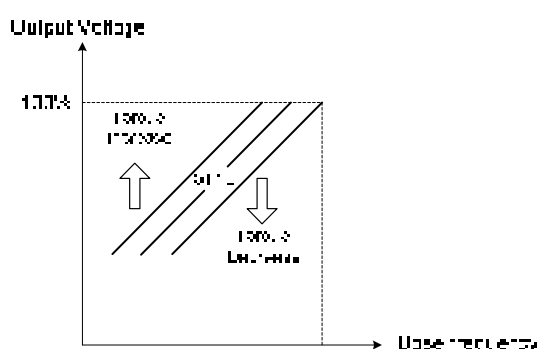

Figure 4.3.14 Torque compensation gain to increase/decrease output torque
- Refer to the torque compensation gain adjustment shown in Figure 4.3.14.